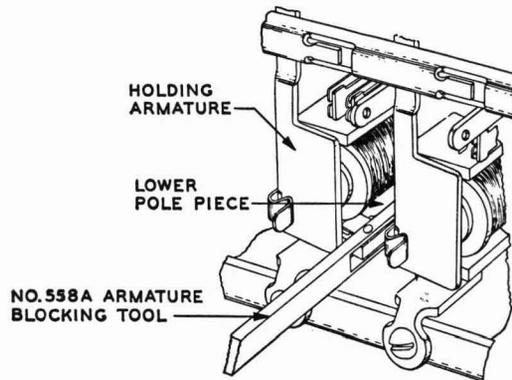

Fig. 16—Blocking 300- and Similar-type Switch Holding Magnets Nonoperated
3.18 **300-, and Similar-type Switches:** Fig. 16—Block the holding magnet of switches nonoperated by applying the No. 558A armature blocking tool to the lower pole piece so that the blocking finger of the tool is between the end of the pole piece and the holding armature.